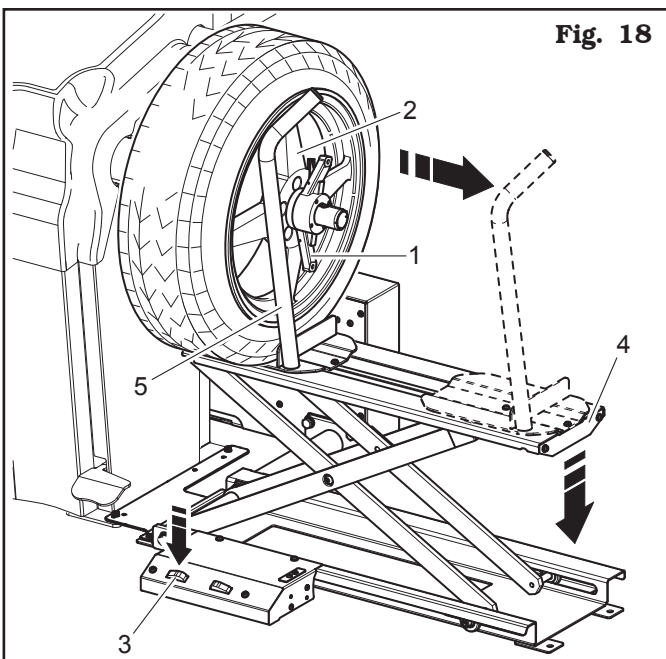

Fig. 18
- Block the rim (Fig. 18 ref. 2) on the mandrel with special devices (Fig. 18 ref. 1).
- Press the descent pedal (Fig. 18 ref. 3), make the footboard descend (Fig. 18 ref. 4) and move rightwards the wheel bearing (Fig. 18 ref. 5).